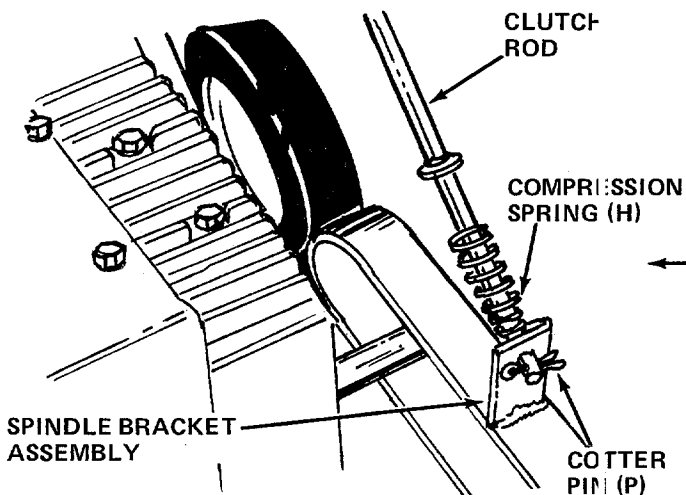

FIGURE 8
- Place compression spring (O) over straight end of clutch rod (U). Place end of rod in spindle bracket assembly and secure with cotter pin (P). See figure 8.